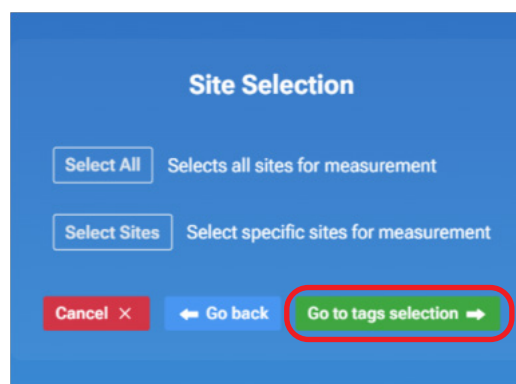

Figure 21: "Site Selection" tab
- The Site Selection feature (Figure 21) allows the selection of either all sites or specific sites for measurement.
2. Select as appropriate and click “Go to tag selection” (Figure 21).